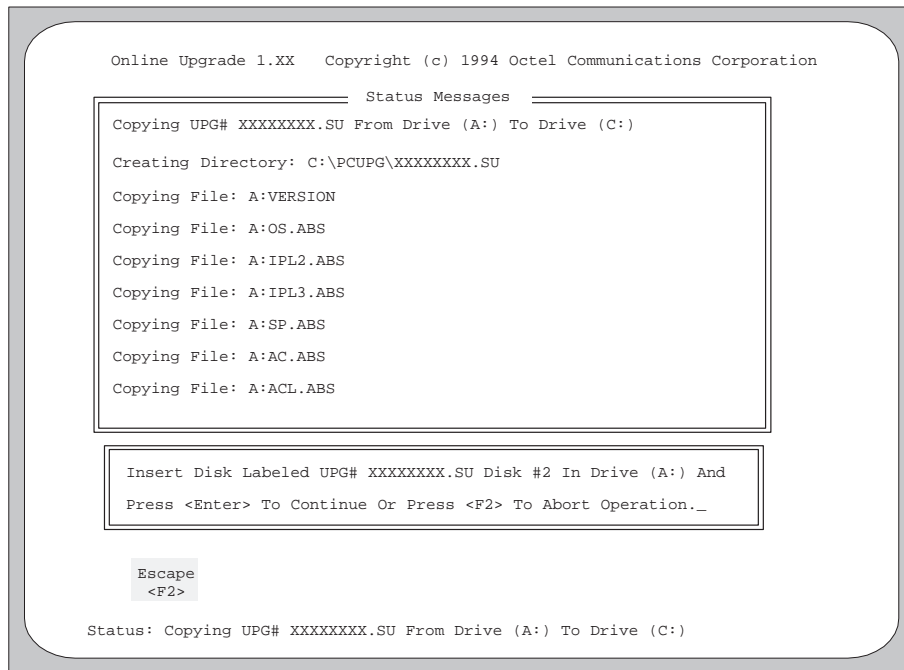

Figure 13-11. Example of Status Messages Screen.
5. At the verification prompt, press **Enter** to accept the default of **Y**. Copying then begins. Eventually, the Status Messages screen appears, an example of which is shown in Figure 13-11.